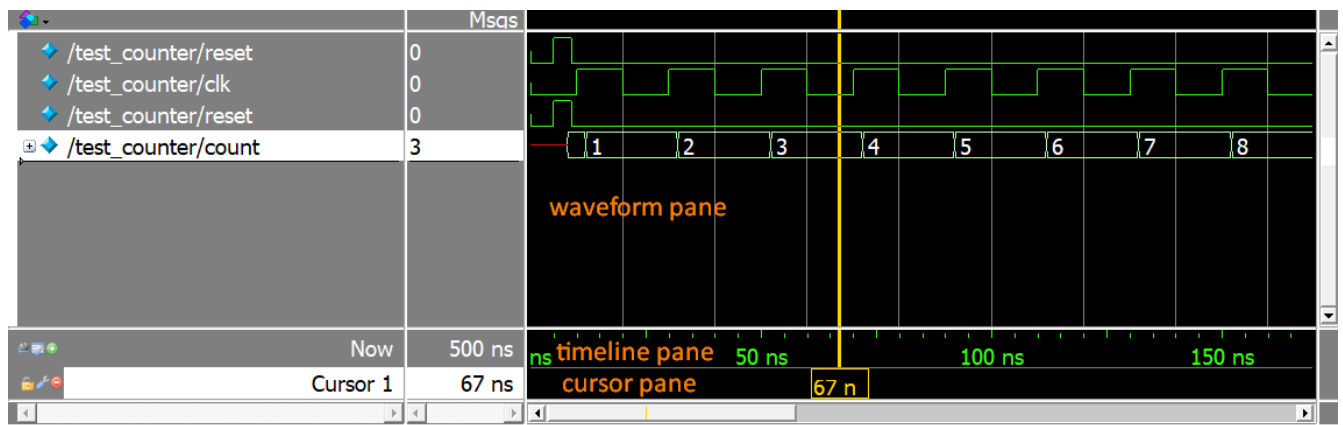

Figure 30
- f. In the waveform pane, position the mouse pointer over the cursor line. When the pointer changes to a two headed arrow (Figure 30), click and hold the left mouse button to select the cursor. Drag the cursor to the right of a transition.
g. In the cursor timeline pane, select the yellow timeline indicator box then drag the cursor to the right of a transition (Figure 30).